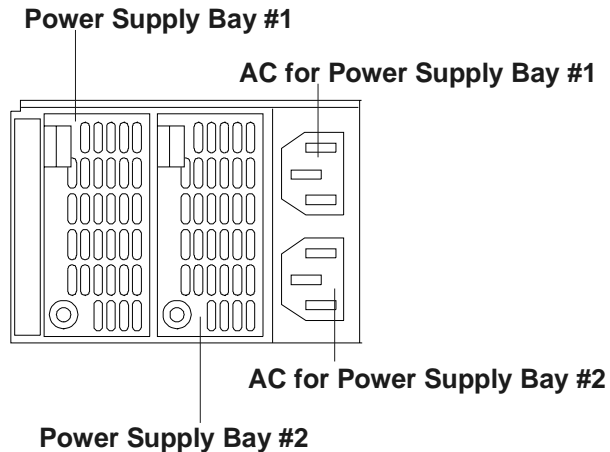

Figure 9-2. Power Supply Connectors
The HP Netserver LP 2000r comes with one power supply module. A second power supply module for redundancy is optional. If only one power supply module is used, it must be installed in power supply bay 2, and a power supply filler panel must be installed in the empty bay 1. Each power supply has its own power cord (see Figure 9-2).
- Plug in the power cord for the power supply module. See Figure 9-2.